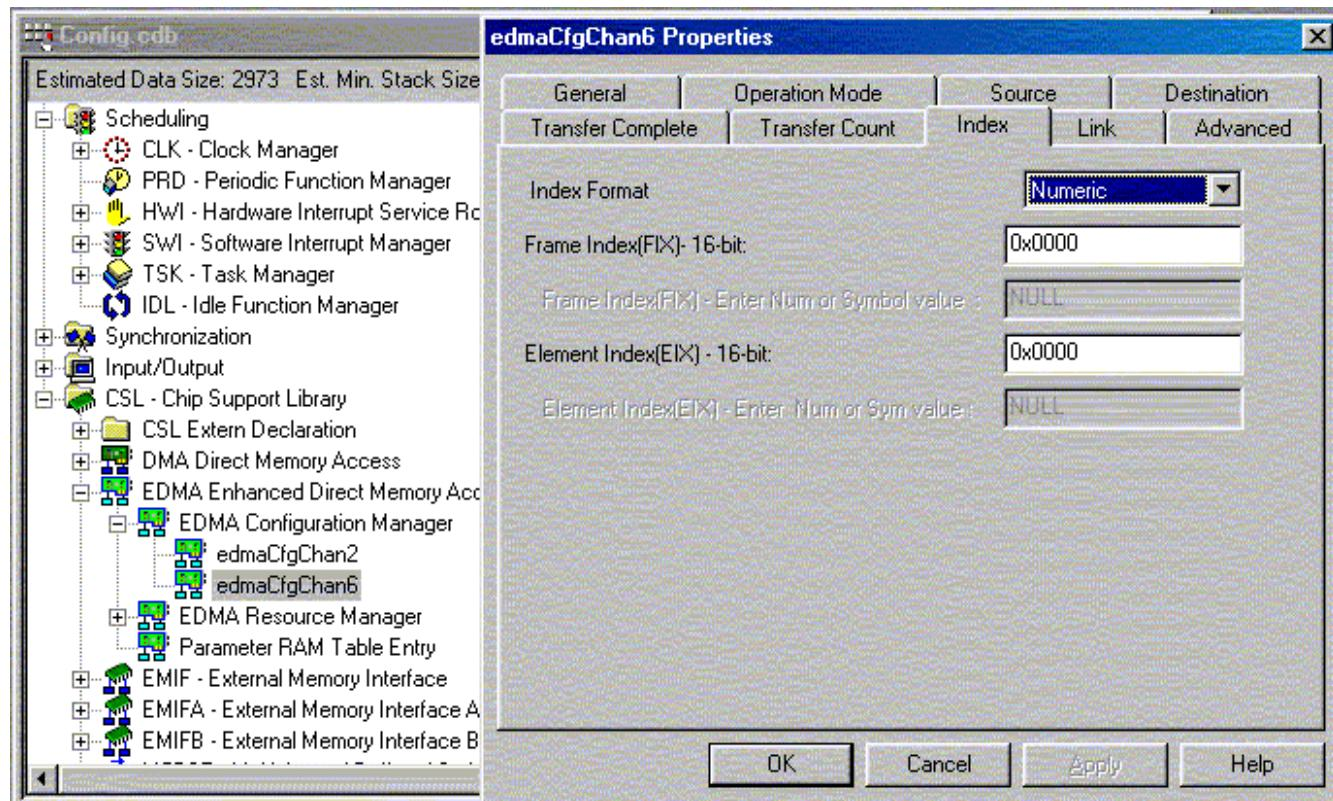
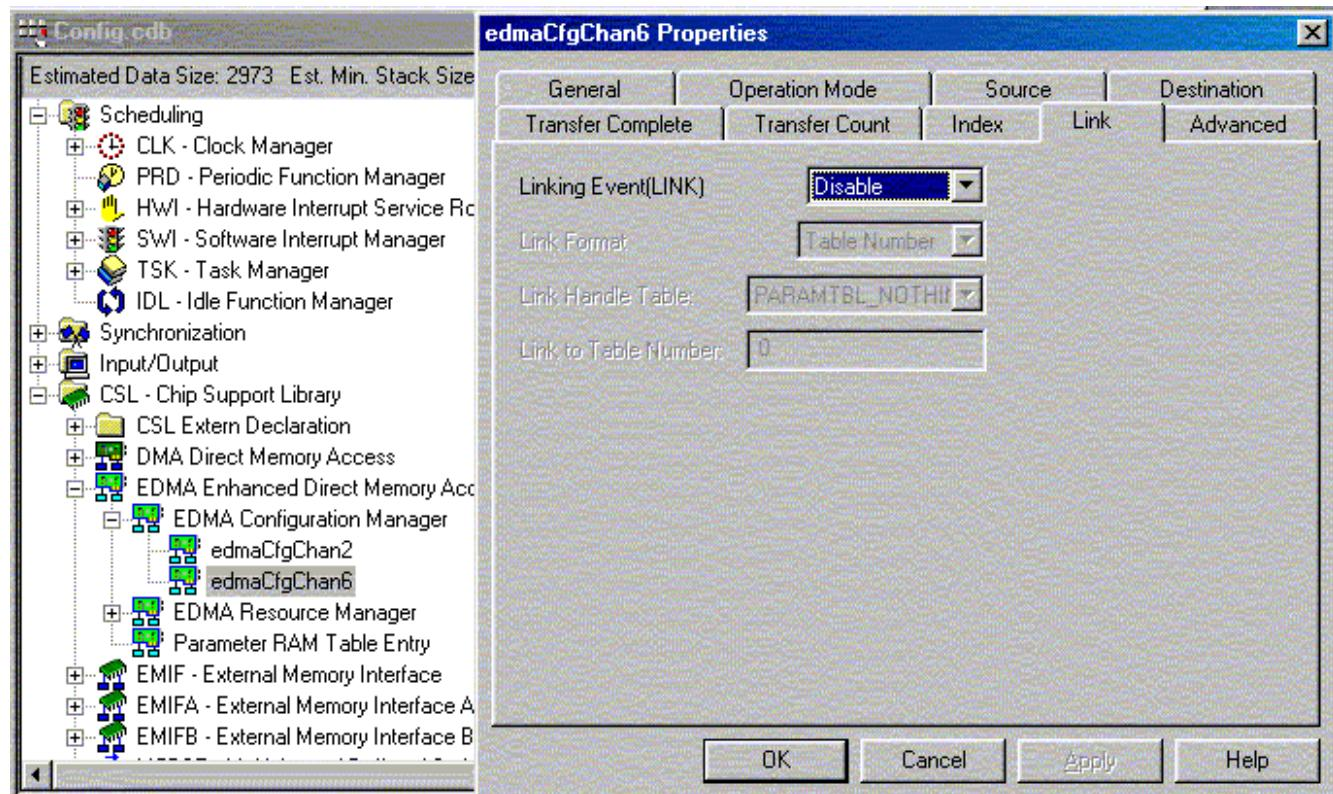

Figure 18. EDMA Chan6 Index Tab Options
Figure 19. EDMA Chan6 Link Tab Options
16. In the Index and Link Tabs, select options shown in Figure 18 and Figure 19.